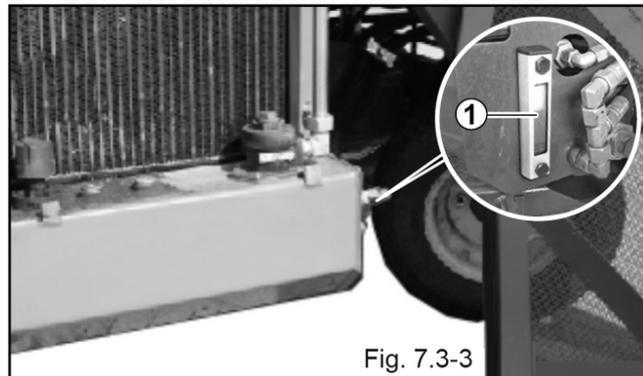

Fig. 7.3-3
The oil tank is integrated into the frame and is located on the left-hand side of the implement (Fig. 7.3-3). The hydraulic oil level can be checked on the fill level indicator (1) on the right of the tank.